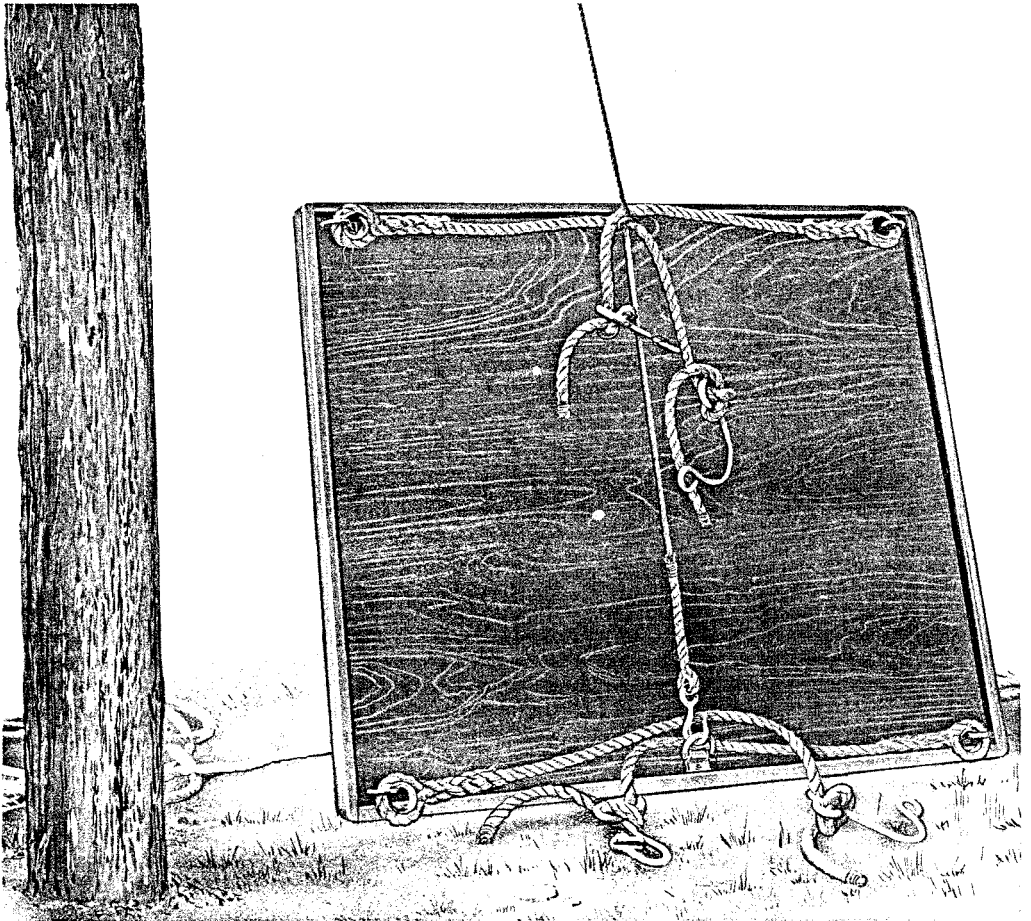
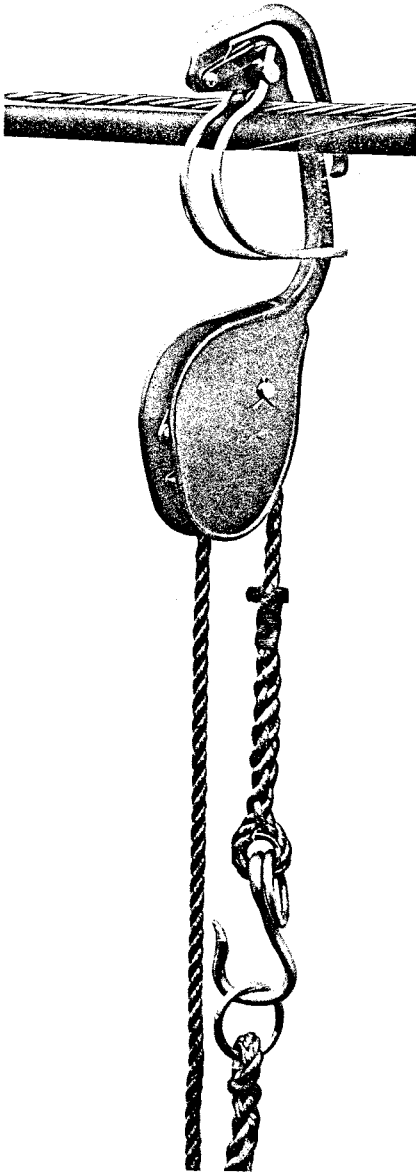

Fig. 3—Method of Placing Ropes and Handline E Platform
Fig. 4—B Aerial Handline
handline placed for raising are shown in Fig. 3. The handline had previously been placed on the suspension strand as shown in Fig. 4. The E Aerial Platform is available in two sizes as shown in Table A.
- (q) Tools and materials shall be raised and lowered by the use of a handline. Observe precautions on use of handlines which are covered in Section 081-512-100. See Fig. 4. Tools and materials shall not be thrown to or from a platform.
- (a) Arrange support ropes, guy ropes, and handline as shown in Fig. 3.
(c) Place the B Aerial Handline block on the strand, as shown in Fig. 4, near the position to be occupied by the outer support ropes of the platform.